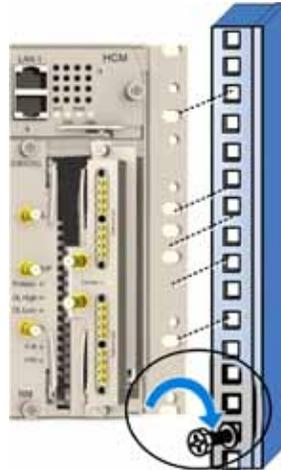

Figure 5-4. Installing Chassis in Rack
2. Referring to Figure 5-4 secure the units' rack ears to the rack frame as follows:
Note that for modules with ejectors (i.e. RIM, RIX and HCM/ACM) – verify that the ejectors are completely open when inserting in dedicated slot and then push in until the module clicks in to the backplane. Figure 5-4 shows example of module type captive screws and ejectors.